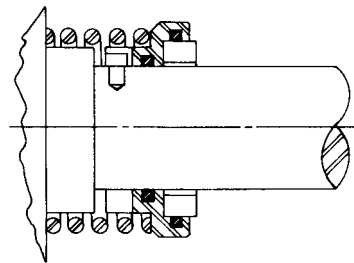

FIGURE 8
7. Place seal spring on shaft against rotor hub. Refer to Figure 8.